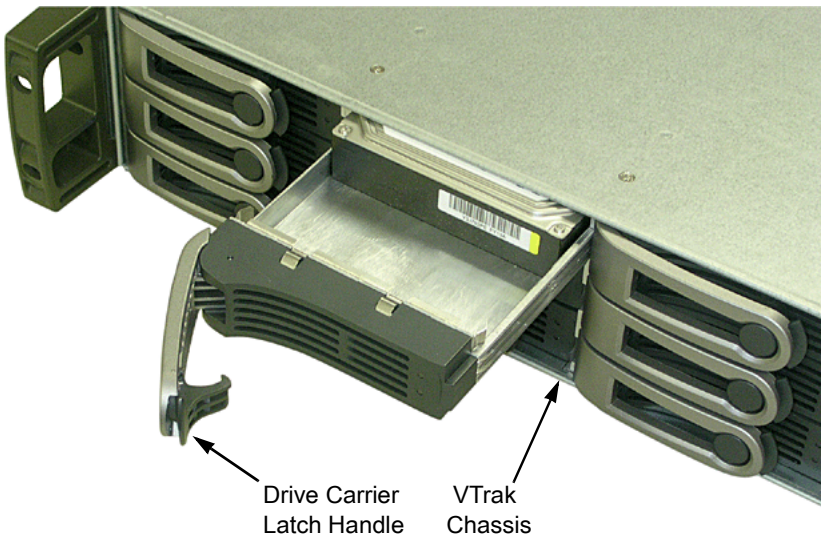

Figure 3. VTrak 12110/8110 Disk Drive access
To remove a Drive Carrier from the VTrak, pull the Drive Carrier Latch Handle and remove an unused Drive Carrier (see Figure 3).
2. Carefully lay the converter into the drive carrier, with the SATA connection facing forward (see Figure 5), so that the screw holes on the bottom line up (see Figure 3).